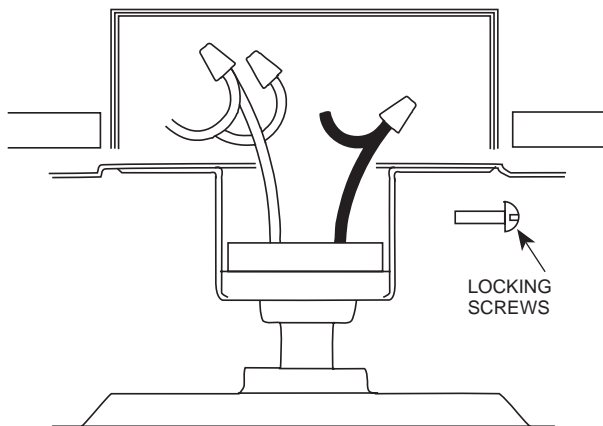

FIGURE 6
A. Using two 8-32 by approximately 5/8" long screws, from sack parts, thread the plastic hanger locking screws into the back of the hanger bracket. See Figure 6. The screws should be driven all the way into the bracket and tightened. The screws are located just above the plastic hanger and prevent the motor from twisting when the blades are assembled.